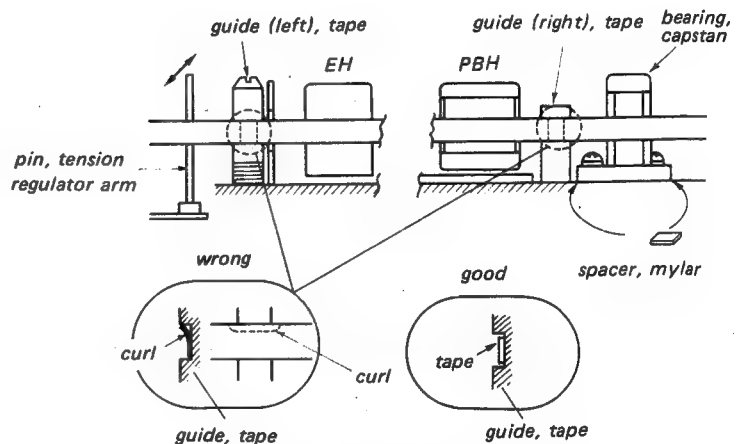

Fig. 12-7 Tape curl adjustment
- (1) Set the machine at 4.8 cm/s (17 7/8 ips) tape speed.
- (2) Be sure that the tape comes in contact with the two tape guides exactly as shown in Fig. 12-7.